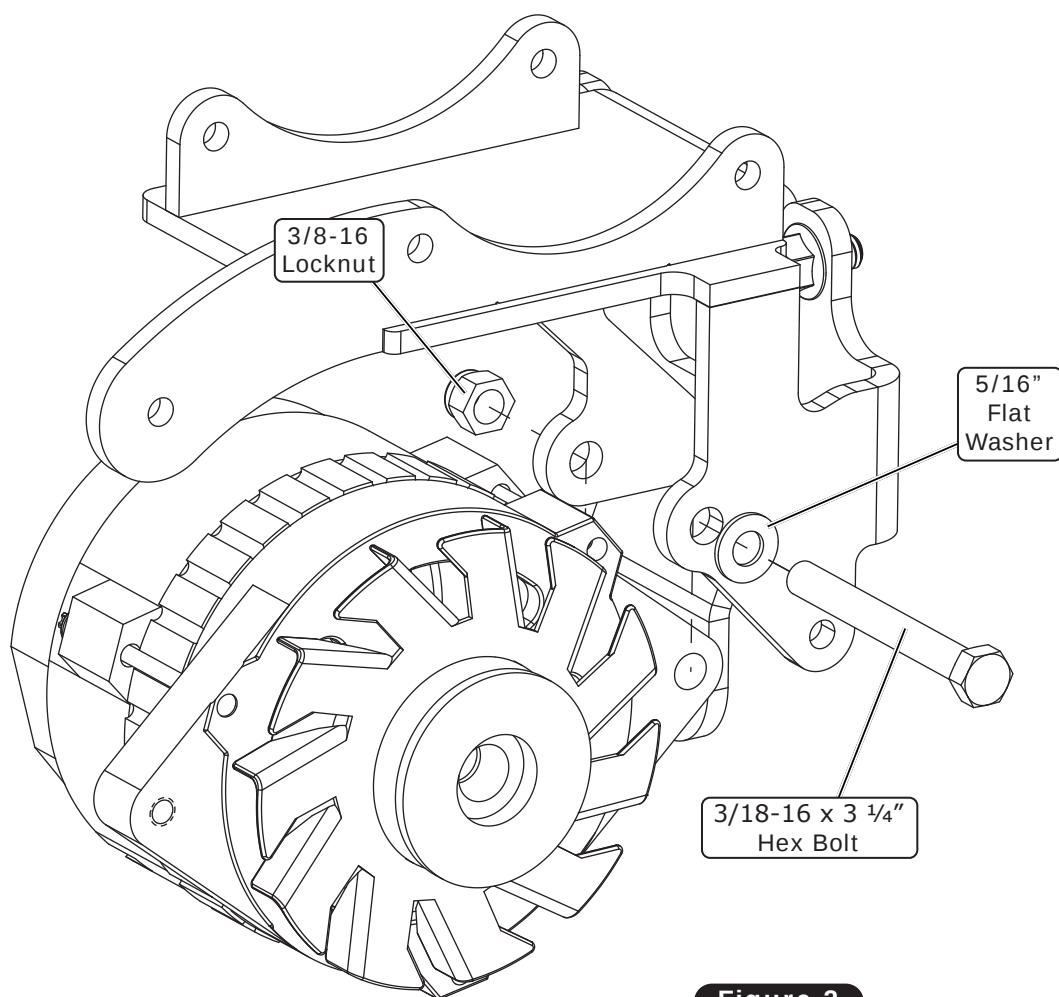

Figure 2
2. Install the alternator onto the assembly using a 3/18-16 x 3 1/4" hex bolt, 5/16" flat washer and a 3/8-16 locknut (See Figure 2, below).